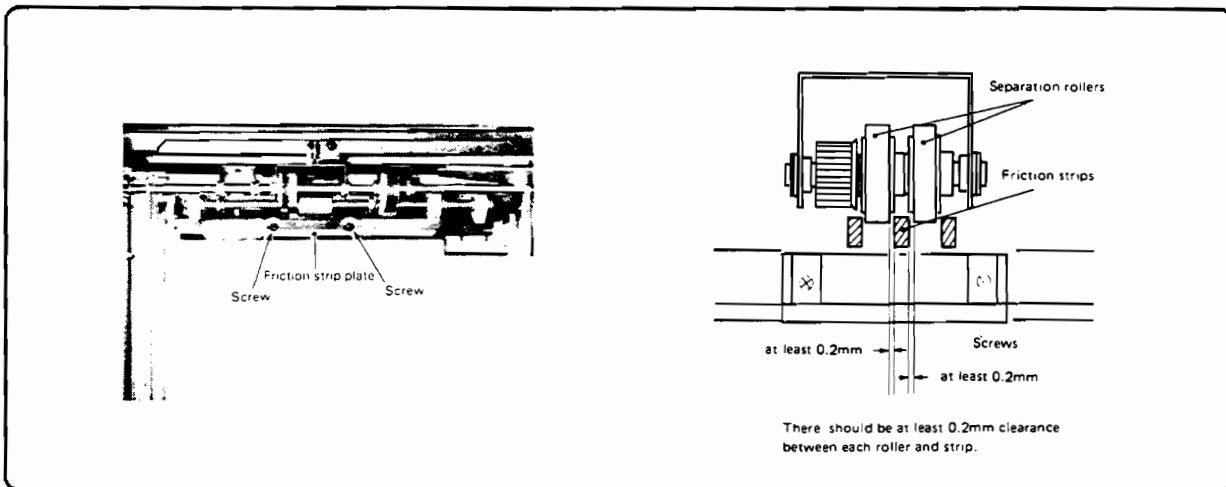

Figure 6-146. PDX Friction Strip Plate
3. Remove the two screws and the metal plate to which the friction strips are attached (Figure 6-146).
Adjustment: Be careful that the paper inlet rollers and friction strips do not interfere with each other. Position the plate so that the strips have the clearances shown in (Figure 6-146).